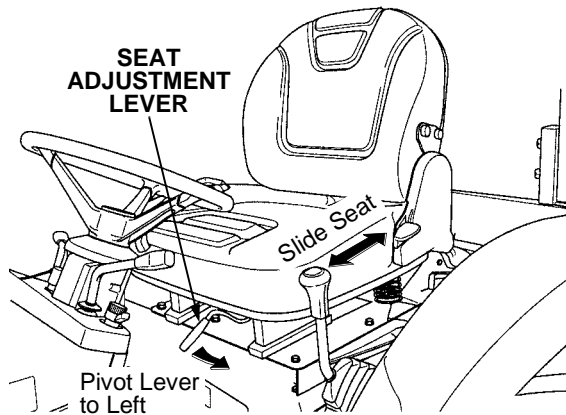

Figure 38
- To adjust the seat, pivot the seat adjustment lever to the left and hold while repositioning the seat to the desired position. See Figure 38.